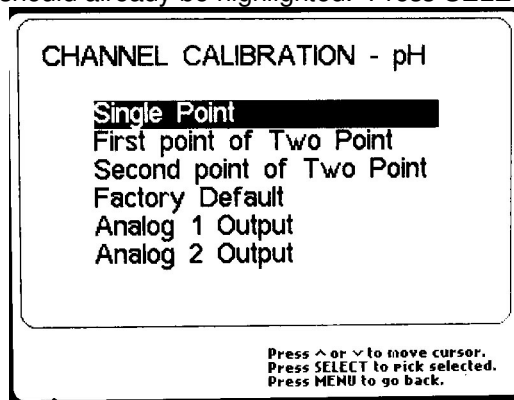

Figure 37 - Channel Calibration - pH Menu
3. From the CHANNEL CALIBRATION – pH menu screen (Figure 37), the SINGLE POINT cal option should already be highlighted. Press SELECT.
3. From the CHANNEL CALIBRATION – pH screen (Figure 37), press the down arrow key once to highlight the FIRST POINT OF TWO POINT option. Press SELECT.
6. From the CHANNEL CALIBRATION – pH screen (Figure 37), use the down arrow key to highlight the SECOND POINT OF TWO POINT option. Press SELECT